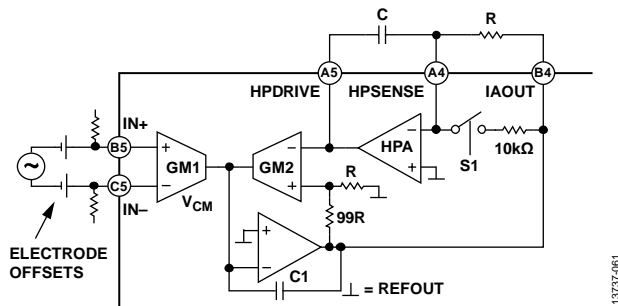

Figure 61. Eliminating Electrode Offsets
To achieve offset rejection, connect a resistor/capacitor (RC) network between the output of the instrumentation amplifier (HPSENSE) and HPDRIVE, as shown in Figure 61.